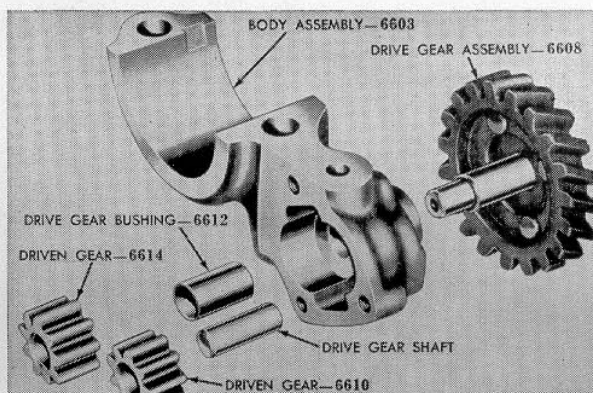
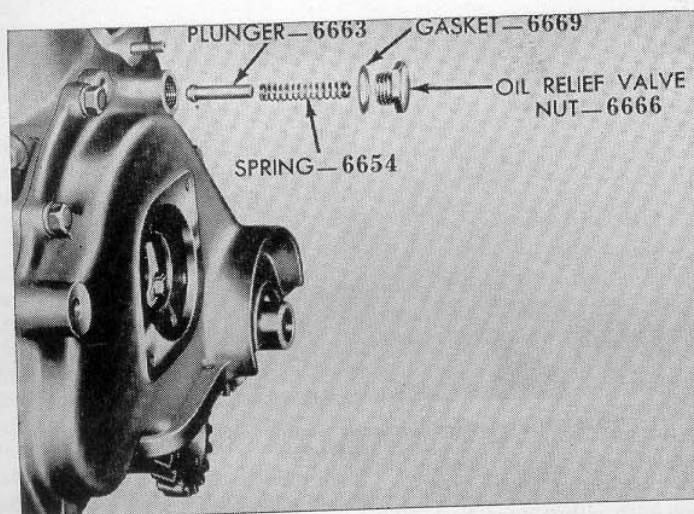

Fig. FO25—Disassembled view of engine oil pump used on models 2N-8N-9N.
Fig. FO26—Disassembled view of oil pressure relief valve mounted on front of timing gear cover on models 2N-8N-9N.
41. Oil pump body is a part of front main bearing cap and can be removed after oil pan is off. Pump is gear type and is driven by crankshaft timing gear Fig. FO25. Pump pressure is regulated by a spring loaded plunger type by-pass valve, located on top left side of gear cover as shown in Fig. FO26.